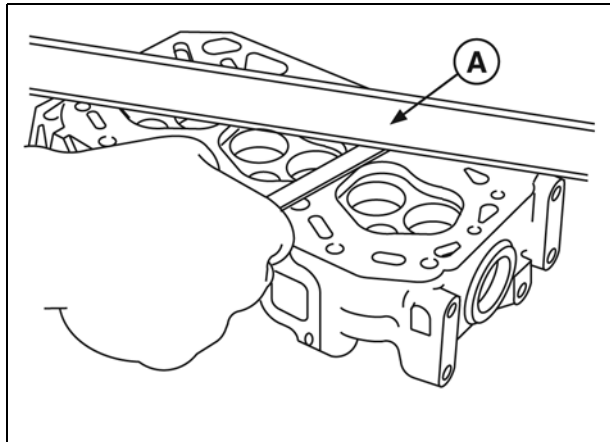

Figure 12
2. Use a straight edge (**A**, Figure 12) to check cylinder head lower surface for distortion.